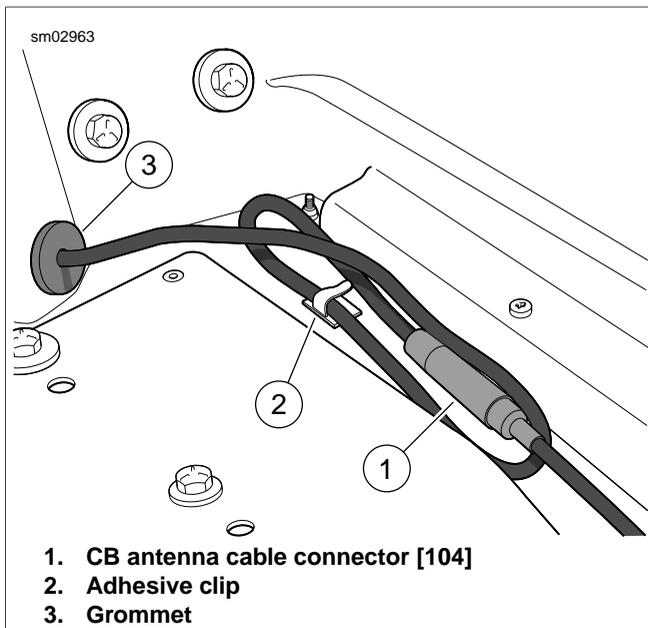

Figure 8-124. CB Antenna Cable Connector [104]
10. Disconnect CB antenna cable connector [104]. Release cable from front adhesive clip at bottom of Tour-Pak. See Figure 8-124.